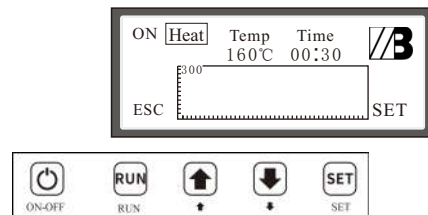
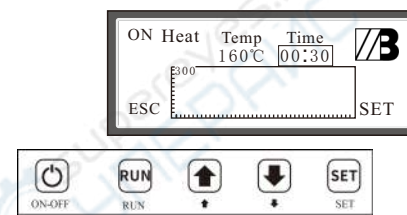

Fig. 8
Fig. 9
(2) Press “SET” button to switch “PREHEAT” to the highlighted state, press “PAGE DOWN” button to switch to “Heating” as shown in Fig. 8. Press “SET” button again to switch “TEMPERATURE” to the highlighted state and conduct temperature setting by pressing “PAGE UP” button and “PAGE DOWN” button. The temperature setting range shall be higher than the set preheating temperature. Press “SET” button to switch “TIME” to the highlighted state as shown in Fig. 9 and then conduct time setting.